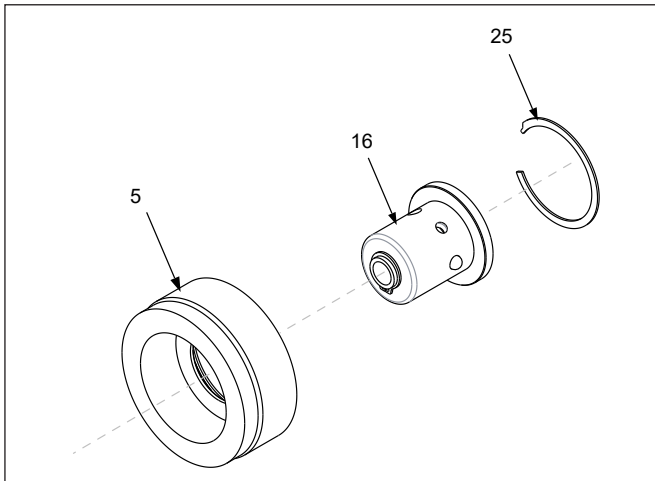

Figure 24: Exploded Push Button Retainer Assembly
7.3.5 Square Drive Shaft Push Button Retainer Assembly Disassembly and Reassembly (Fig. 24)